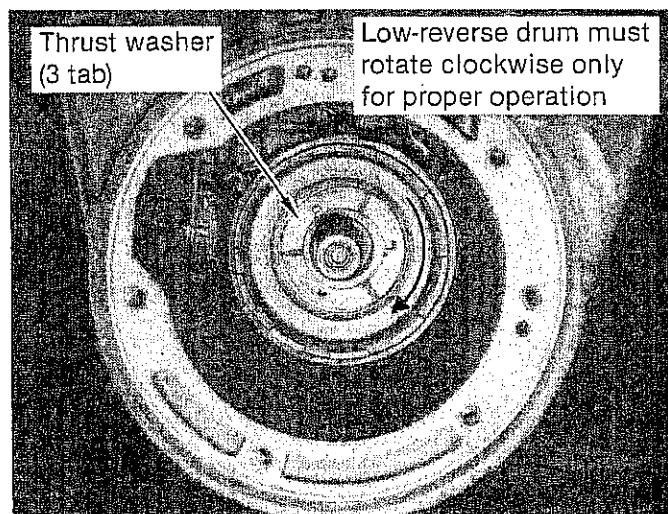

FIGURE 56
STEP 10. Install three-tab thrust washer on front face of low-reverse drum. Use grease to hold it in place. Lubricate one-way clutch with automatic transmission fluid. Install low-reverse drum into case rotating clockwise to engage one-way clutch. Push in on the drum until it bottoms out. The drum **must rotate clockwise** only for proper operation. (See Fig. 56) Counterclockwise rotation indicates the one-way clutch is improperly installed.